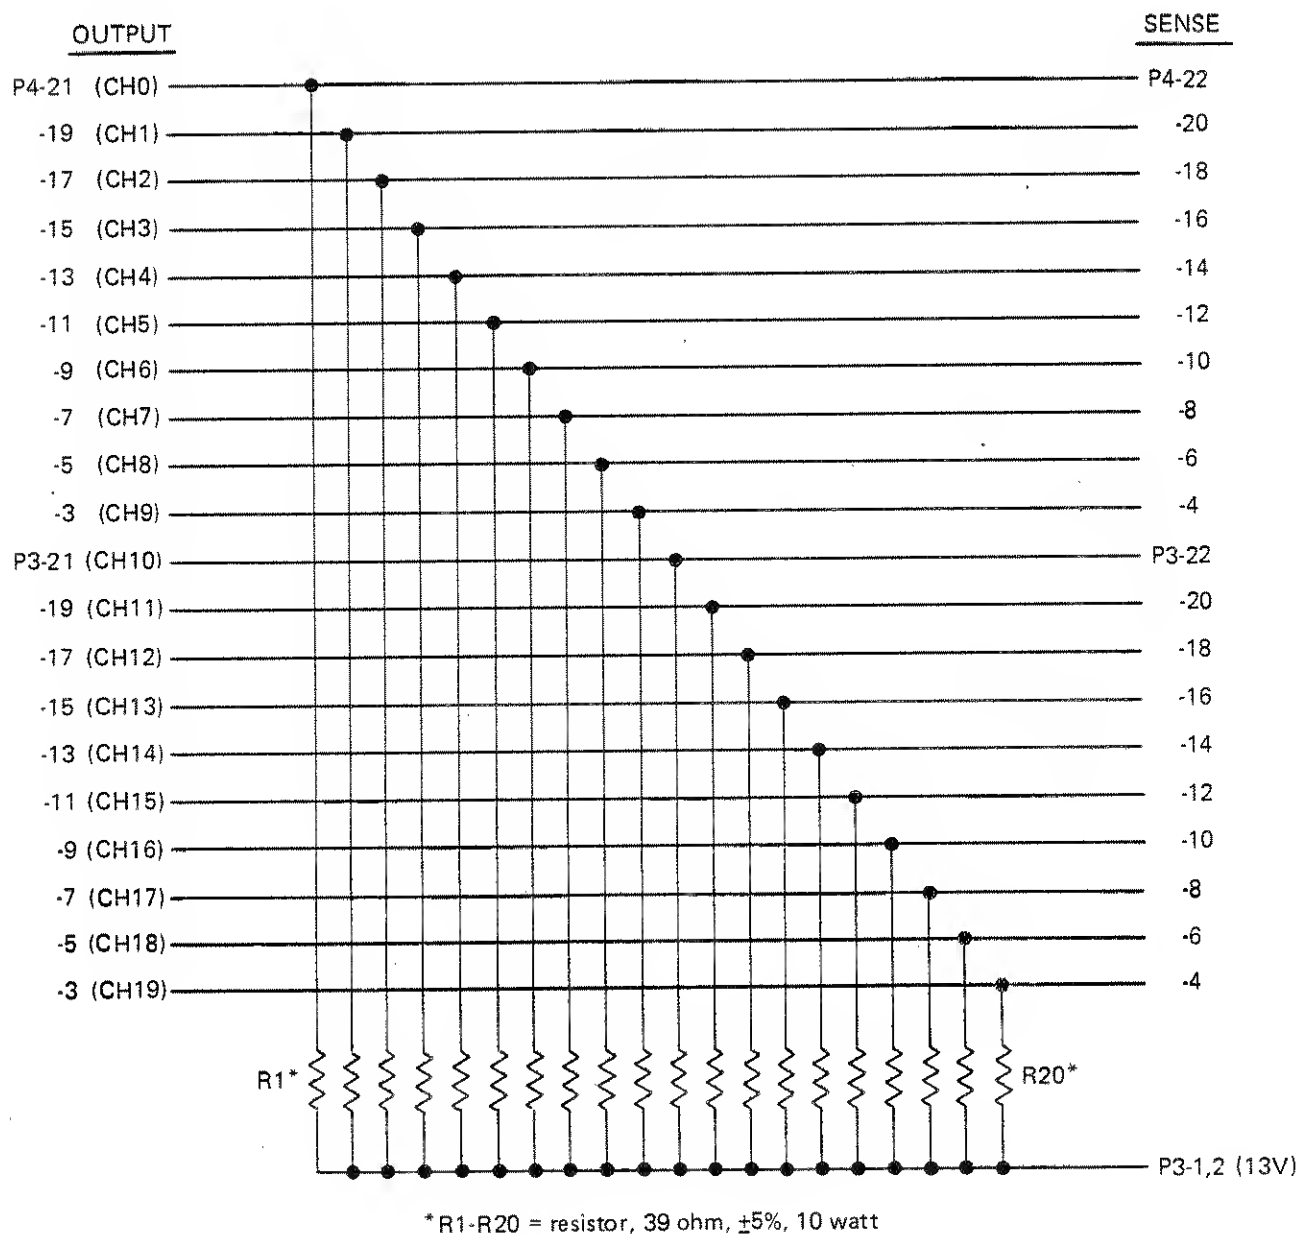

Figure 4.4 - 1250-15 Test Configuration
4.4.8.3.1 The 1250-15 Relay Driver module consists of 20 drive lines capable of sinking up to 350 mA of current and 20 corresponding readback lines. The test for this module consists of connecting each drive line to its corresponding readback line and pulling the two lines up through a 39-ohm, 10-watt resistor to the 13-volt line. See Figure 4.4 for a schematic view of the 1250-15 test fixture. Each drive line should be actuated and the corresponding readback line interrogated to ensure that the line assumed a low logic level.